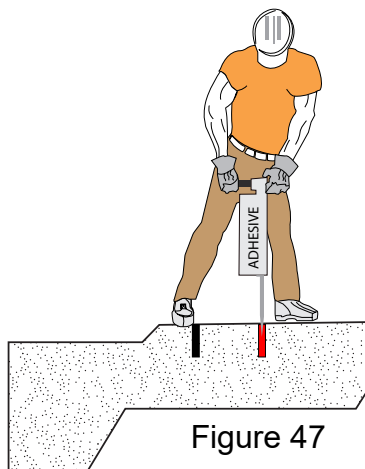

Figure 47
STEP 5 Once the debris from the holes is removed, inject HILTI HIT RE-500 resin into the two anchor bolt holes following the resin manufacturer's recommendation for application. **See Figure 47**